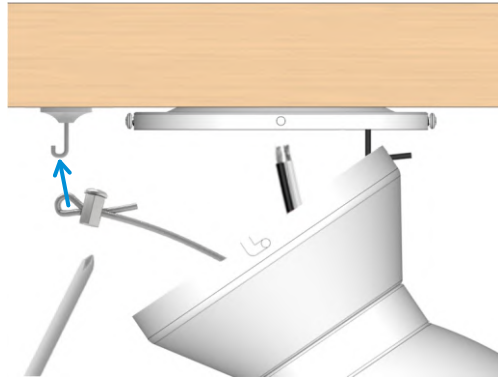

Fig. 4.2
**Option 1:** Refer to Fig. 4.2. Hang the safety rope on the ceiling hook (not included). Using a screwdriver, loosen the screw on the safety rope lock. Pull the safety rope taut and then tighten the screw on the safety rope lock to ensure a firm and secure connection between the safety rope and the ceiling hook. Always double-check to ensure the safety rope is taut.